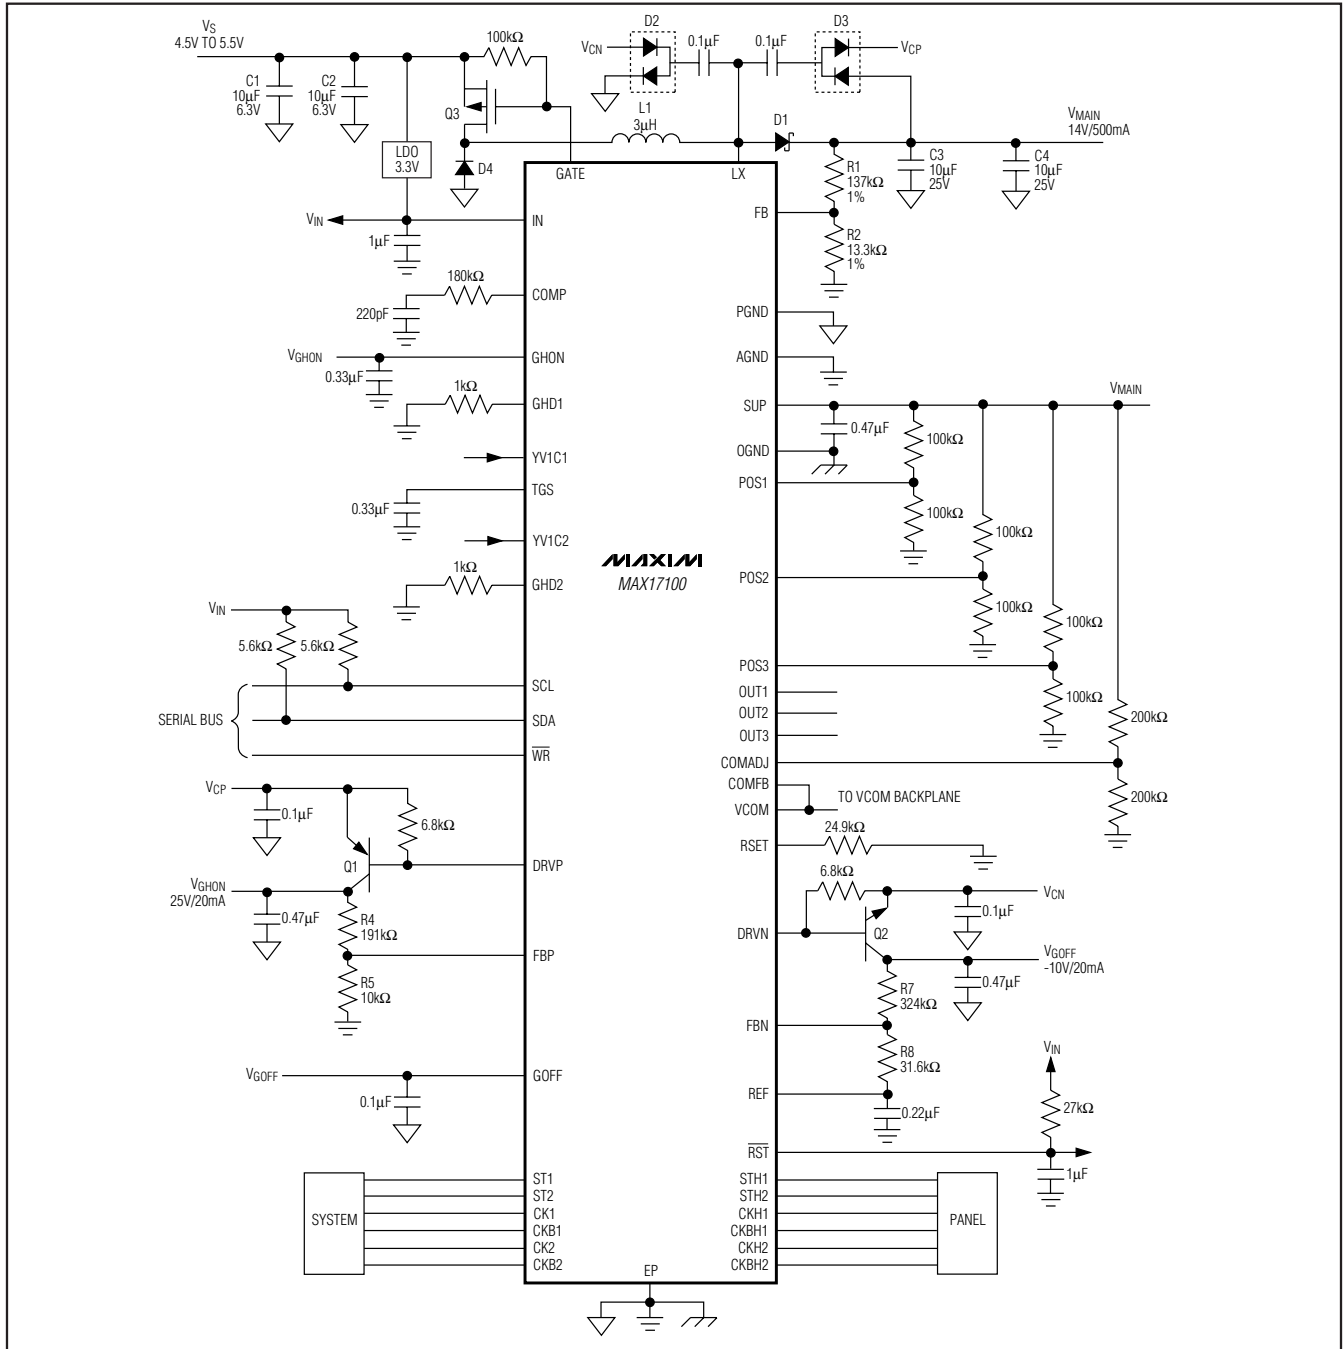
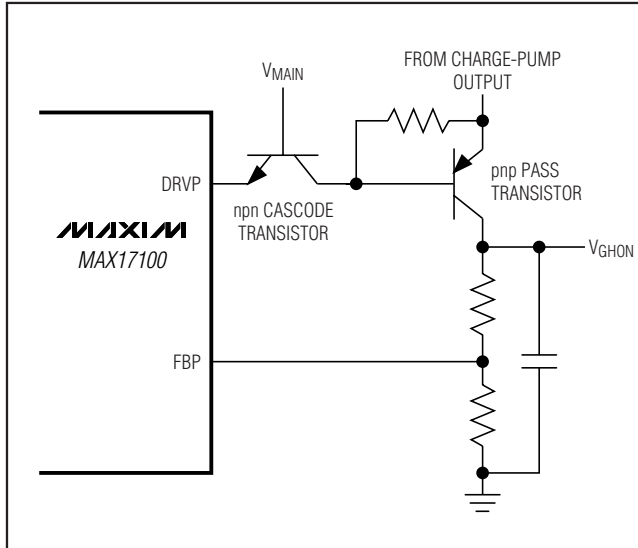
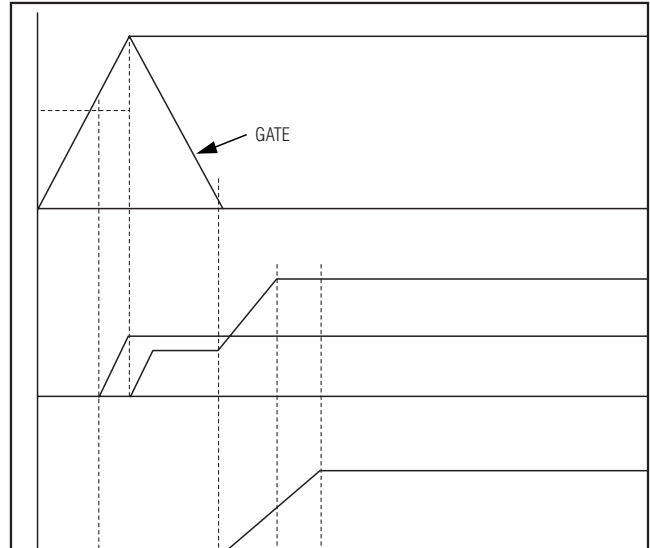

Figure 2. Typical Operating Circuit
Figure 5. Using Cascaded npn for Charge-Pump Output Voltages > 36V
Figure 6. Linear Regulator Controls the Intermediate Charge-Pump Stage
(Circuit of Figure 2,  $V_S = 5V$ ,  $V_{MAIN} = 14V$ ,  $V_{GHON} = 25V$ ,  $V_{GOFF} = -10V$ ,  $T_A = +25^\circ C$ , unless otherwise noted.)
The MAX17100 typical operating circuit (Figure 2) is a complete power-supply system for TFT LCDs. The circuit generates a +14V source-driver supply and +25V and
-10V gate-driver supplies. The input-voltage range for the IC is from +2.5V to +6.0V. The listed load currents in Figure 2 are available from a +4.5V to +5.5V supply. Table 1 lists some recommended components and Table 2 lists the contact information of component suppliers.
The gate-on linear-regulator controller is an analog gain block with an open-drain n-channel output. It drives an external pnp pass transistor with a  $6.8\text{k}\Omega$  base-to-emitter resistor (Figure 2). Its guaranteed base drive sink current is at least 1mA. The regulator including Q1 in Figure 2 uses a  $0.47\mu\text{F}$  ceramic output capacitor and is designed to deliver 20mA at 25V. Other output voltages and currents are possible with the proper pass transistor and output capacitor. See the *Pass-Transistor Selection* and *Stability Requirements* sections. REG P is typically used to provide the TFT-LCD gate drivers' gate-on voltage. Use a charge pump with as many stages as necessary to obtain a voltage exceeding the required gate-on voltage (see the *Selecting the Number of Charge-Pump Stages* section). Note the voltage rating of DRVP is 36V. If the charge-pump output voltage can exceed 36V, an external cascode npn transistor should be added as shown in Figure 5. Alternately, the linear regulator can control an intermediate charge-pump stage while regulating the final charge-pump output (Figure 6). REG P is enabled after the GATE voltage reaches the gate-on threshold voltage (1.5V typ). Each time it is enabled, the controller goes through a soft-start routine that ramps up its internal reference DAC in 128 steps.
The gate-off linear-regulator controller (REG N) is an analog gain block with an open-drain p-channel output. It drives an external npn pass transistor with a  $6.8\text{k}\Omega$  base-to-emitter resistor (Figure 2). Its guaranteed base-drive source current is at least 1mA. The regulator including Q2 in Figure 2 uses a  $0.47\mu\text{F}$  ceramic output capacitor and is designed to deliver 20mA at -10V. Other output voltages and currents are possible with the proper pass transistor and output capacitor (see the *Pass-Transistor Selection* and *Stability Requirements* sections). REG N is typically used to provide the TFT-LCD gate drivers' gate-off voltage. A negative voltage can be produced using a charge-pump circuit as shown in Figure 2. REG N is enabled after the GATE voltage reaches the gate-on threshold voltage (1.5V typ). Each time it is enabled, the control goes through a soft-start routine that ramps down its internal reference DAC from  $V_{REF}$  to 250mV in 128 steps.